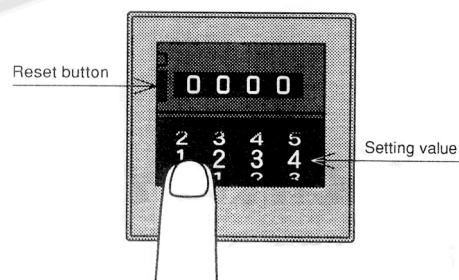

Fig. 2
- (1) When the front cover is shifted down while pushing the black color reset button, the setting wheel is revealed.
- (2) Make the desired setting by turning the wheel upward or downward (Fig 2)
- (3) Shift the front cover up to the original position while pushing the reset button again. Then presetting is completed.